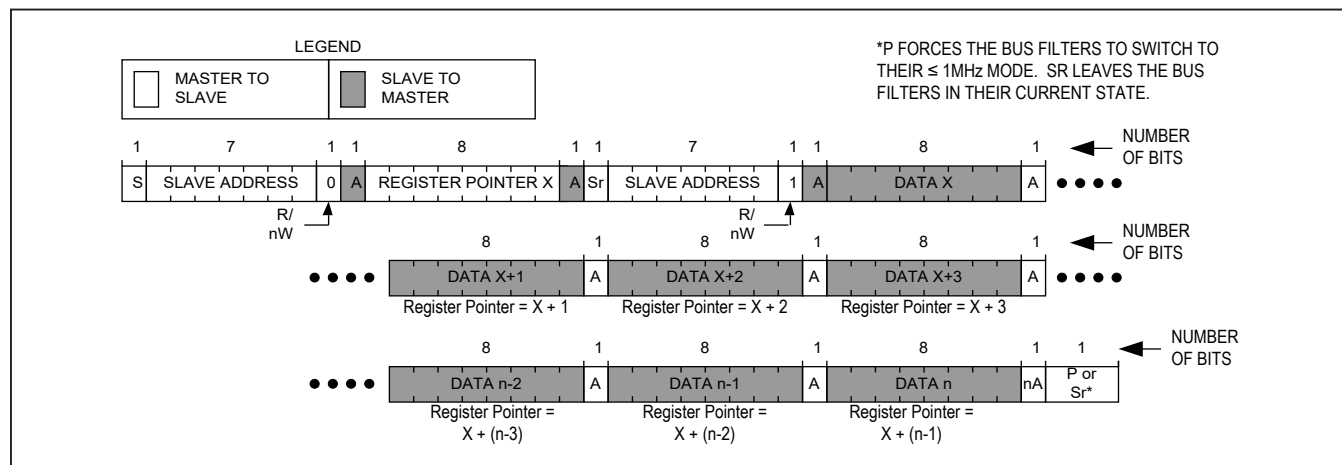

Figure 11. Reading Continuously from Sequential Registers
Figure 11 shows the protocol for reading from sequential registers. This protocol is similar to the "Read Byte" protocol except the master issues an ACKNOWLEDGE (A) to signal